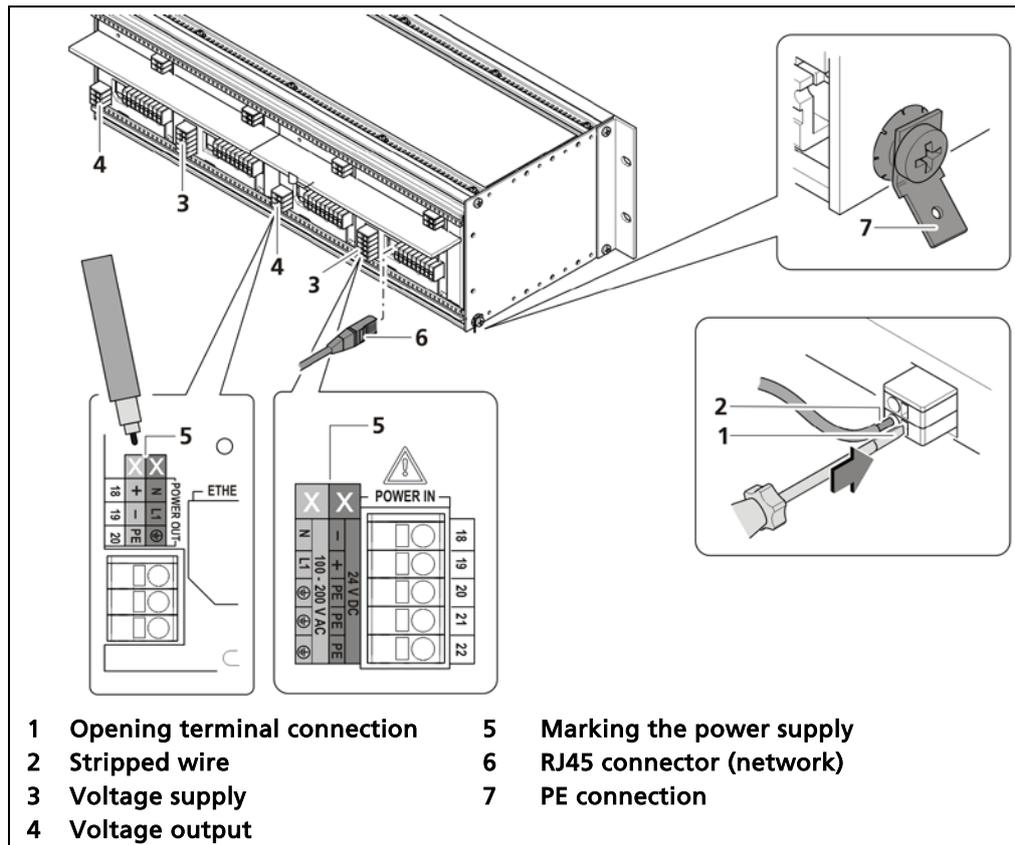

Fig. 17 Electrical connection in the 19" subrack (terminal panels)
Before the initial commissioning, the voltage range (Fig. 17, item 8) must be marked on all input and output terminals in a permanent and chemically-resistant marker!
Only power within the marked range (Fig. 17, item 5) must be applied!
2. Mark the voltage range in a permanent and chemically-resistant marker (Fig. 17, item 5).
4. Open the terminal connection (Fig. 17, item 1) with an operating tool (slotted screwdriver) and insert the stripped wire (min. 8 mm) (Fig. 17, item 2).
5. Plug the network plug into the RJ45 socket (Fig. 17, item 6) (optional).
6. Check the correct connection of the PE conductor (Fig. 17, item 7).